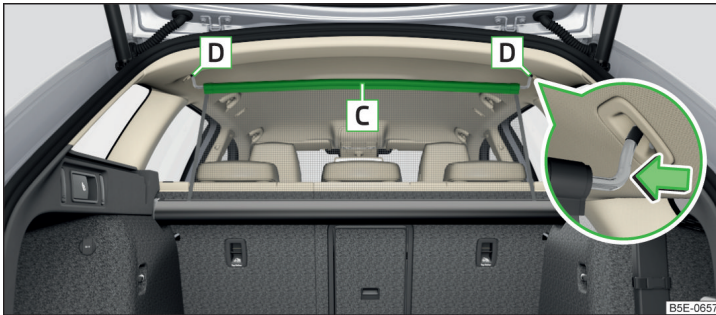

Fig. 147 Correctly secure net partition behind the front seats in the pulled-out state
- › Pull out the net partition at the crossbar **C** and hook into one of the receptacles **D** » Fig. 147.
- › Press on the crossbar and remove it from the receptacles **D** » Fig. 147, first on one side, then on the other side.